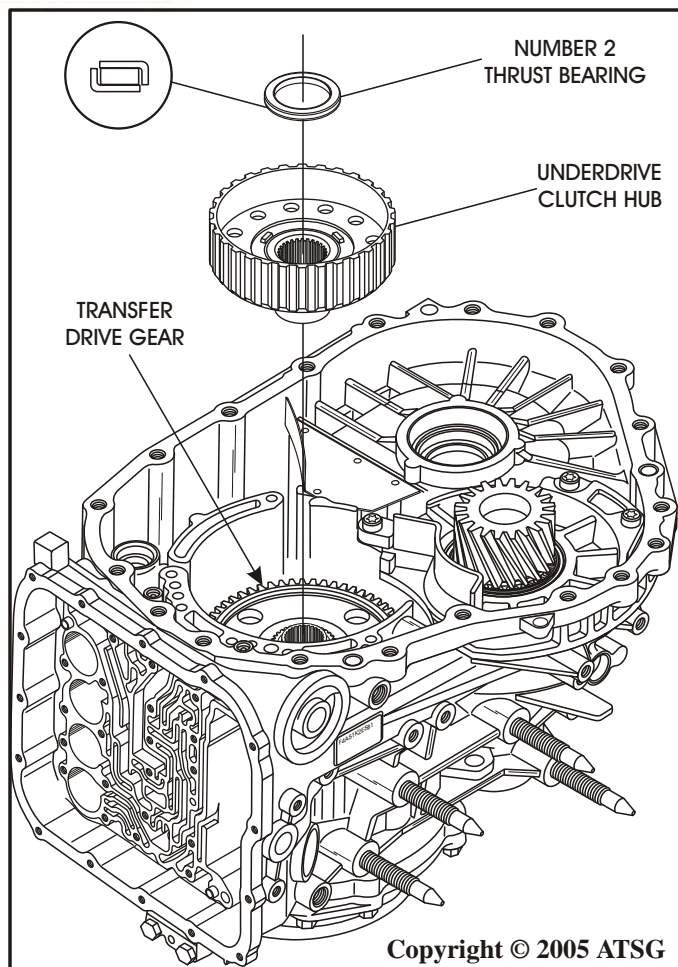

Figure 193
80. Rotate the transaxle case so that front side is facing up, as shown in Figure 193.
81. Install the underdrive clutch hub, as shown in Figure 193.
82. Ensure that the number 2 thrust bearing is installed in the proper direction, as shown in Figure 193.